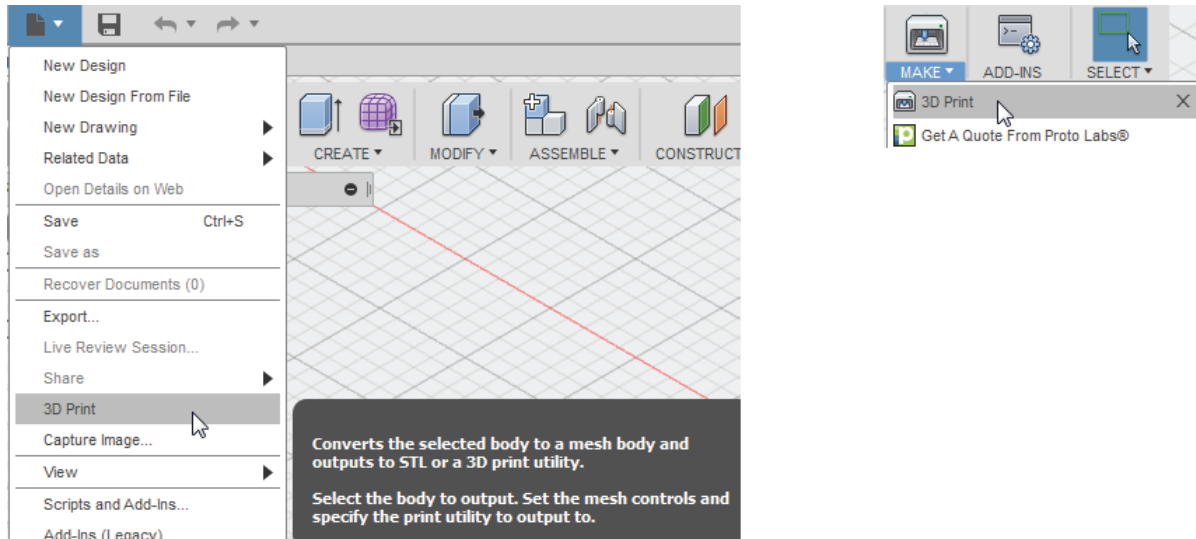
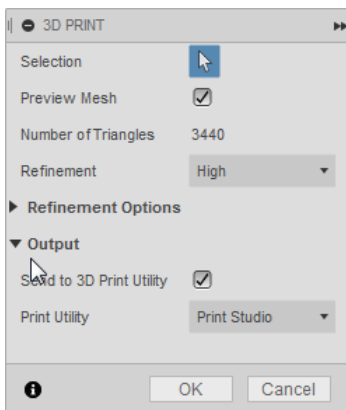

Figure-36. 3D Print
Figure-37. 3D-Print Dialog box
- Click on the **3D Print** tool from the **File** menu or click on the **3D Print** tool from the **Make** panel in the **Toolbar**; refer to Figure-36. The **3D-PRINT** dialog box will be displayed; refer to Figure-37.